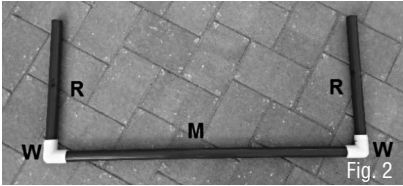

Fig. 2
2. Assemble the bottom support of the table (Fig. 2).